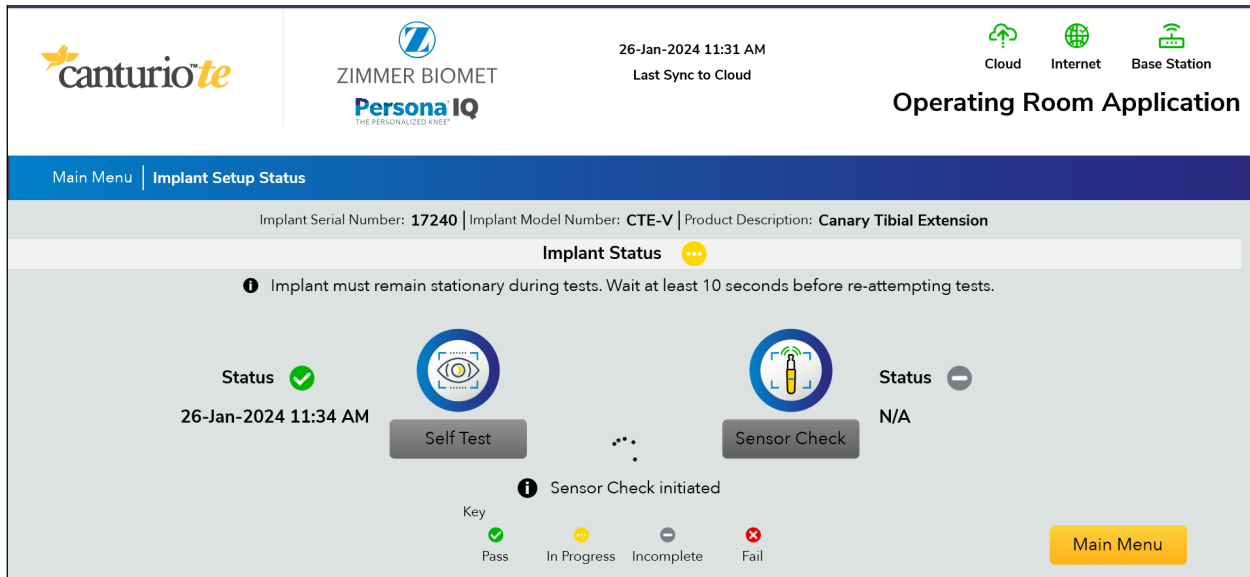

Figure 11: Sensor Check
- b. Click on Sensor Check (**Figure 11**). Upon initiation of a Sensor Check the IMU in the implant captures a brief series of accelerometer and gyroscope (gyro) data which is then evaluated relative to the normal range for as-manufactured devices. A “pass” result is only possible if both accelerometer and gyro data are within the normal range.